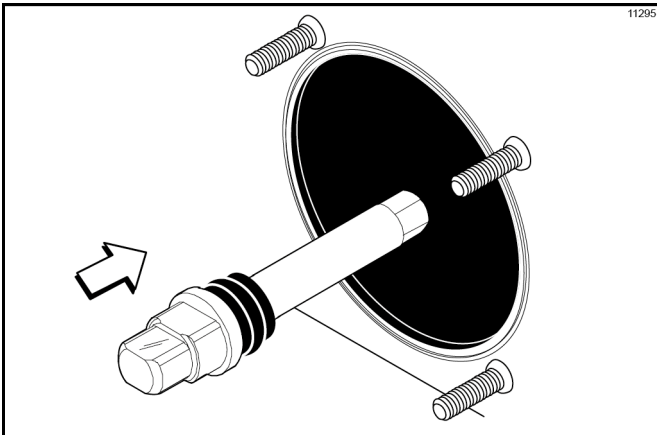

Figure 6-14
2. Insert the beater driveshaft through the rear shell bearing in the freezing cylinder and engage the hex end firmly into the drive coupling. (See Figure 6-14.)